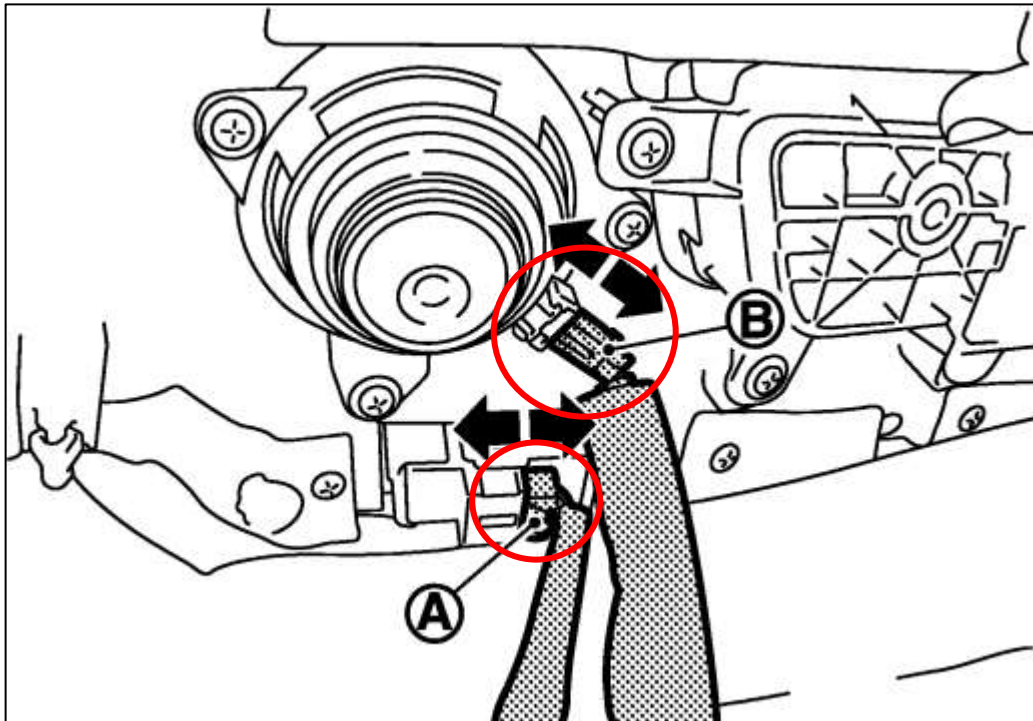

Figure 60
8. With the Door Panel disconnected, disconnect the electrical connectors as shown below. *Figure 60.*